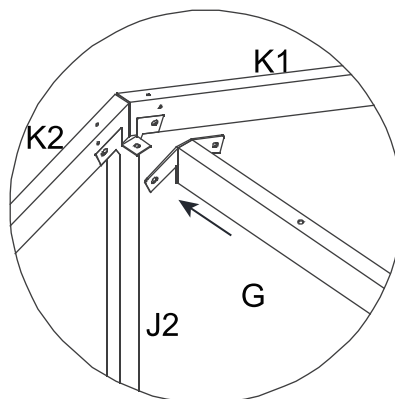

Figure 8.3
8.3 Connect the Middle Support bar (G) with the Bilateral Cant Beam (K1/K2), fix them with Bolts (AA) and Washers (HH). See Figure 8.3.